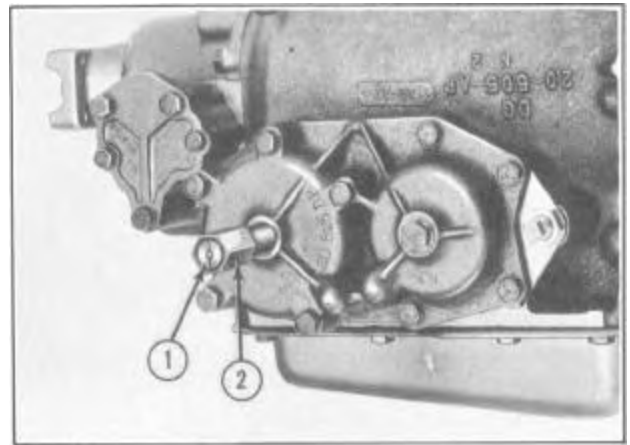

FIGURE 147
1. Remove the pressure take-off cap screw and gasket and install the Band Adjusting Tool J-4285, Figure 147.